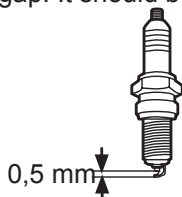

Fig. 60
- > Check the spark plug gap. It should be 0.5 mm (Fig. 60).